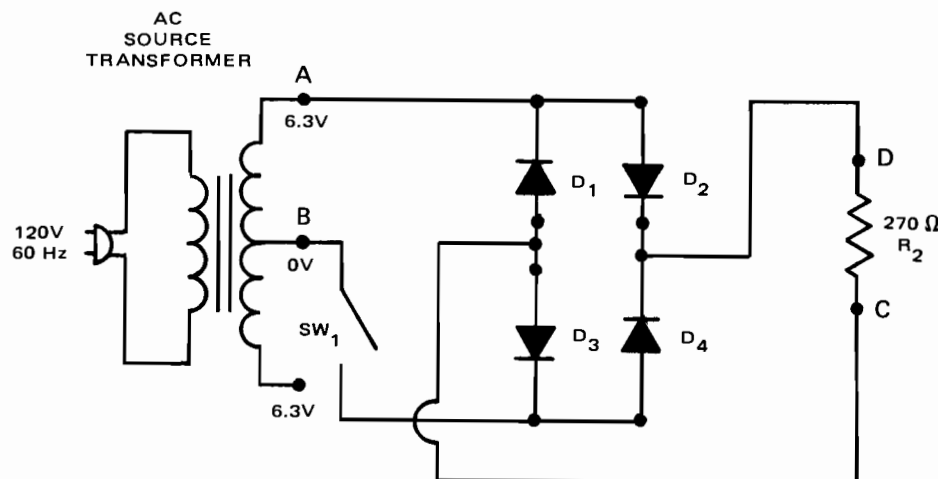

Fig. 15-4-1
1. Construct bridge rectifier as in Fig. 15-4-1.